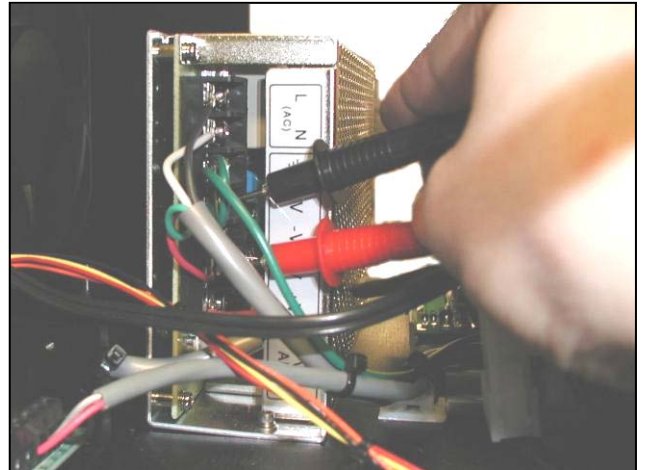

Figure 3-38. Testing 24 VDC on Power Supply
13. Place the black probe on the “V-“contact and the red probe on the “V+” contact (Figure 3-38).